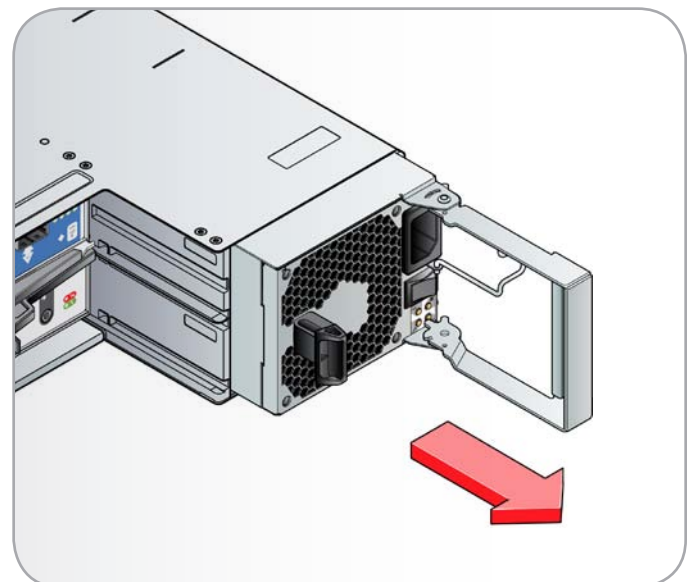

Fig. 31 - Removing the Power Cooling Module (2)
2. Grip the handle and withdraw the PCM from the enclosure bay (*Fig. 31*).